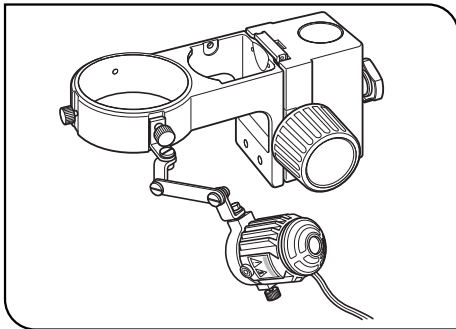

Fig. 7
**A. Attaching the IHA holder (Fig. 7)**